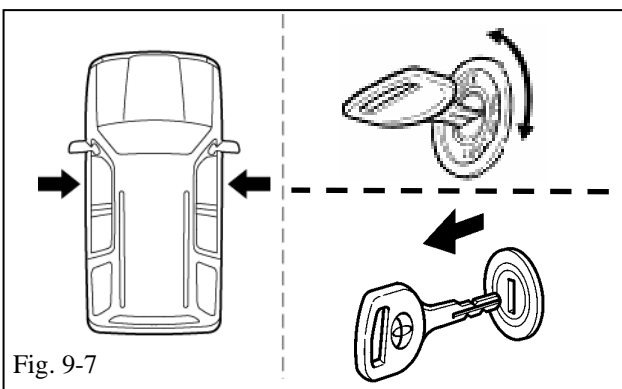

Fig. 9-7
- (j) Verify that all doors are closed. (Fig. 9-7)
- (1) Do not close the Hood.
- (k) Turn the Key to the "ON" position and back to the “OFF” position. (Fig. 9-7)
- (l) Remove the Key from the ignition switch. (Fig. 9-7)